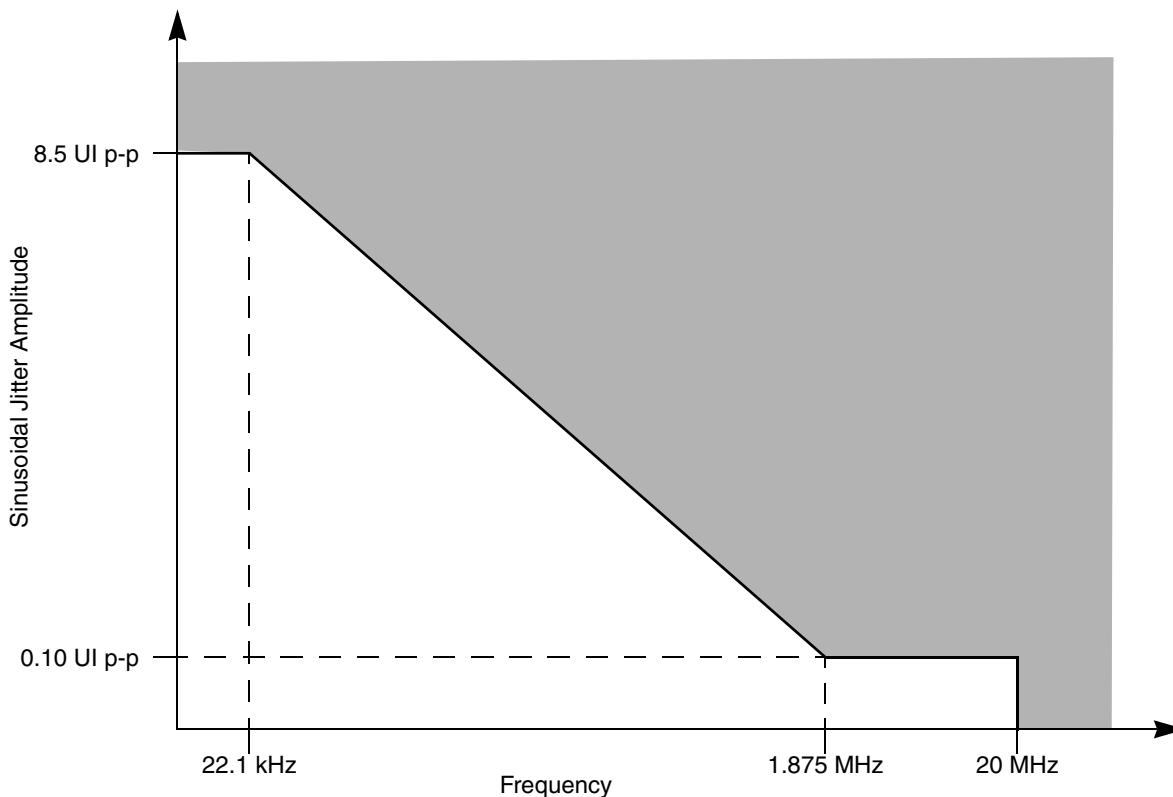

Figure 30. Single Frequency Sinusoidal Jitter Limits
2. See Figure 30 for single frequency sinusoidal jitter limits.